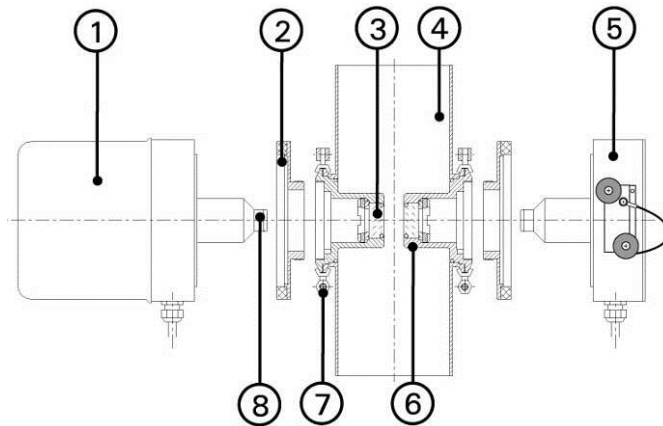

Figure 8 : Cross-section of ColorPlus 2
①	Transmitter	②	Ring adapter
③	Measuring cell window	④	Inline housing
⑤	Receiver with external checking unit	⑥	OPL bit
⑦	Lock ring	⑧	Flood protection
The ColorPlus 2 is delivered with an OPL bit (Figure 8, pos. 6) on both sides for installation in an inline housing. The OPL bits with measuring cell window (Figure 8, pos. 3), the corresponding flood protection (Figure 8, pos. 8) and ring adapter (Figure 8, pos. 2) are already installed according to customer requirements at the factory.
1.	Insert the complete transmitter/receiver into the mounting on the inline housing. i The groove (X) on the transmitter and receiver must face forwards when mounted.
2.	Loosely position the transmitter/receiver on the inline housing with the lock ring (Figure 8, pos. 7) and tighten with the nut (A).